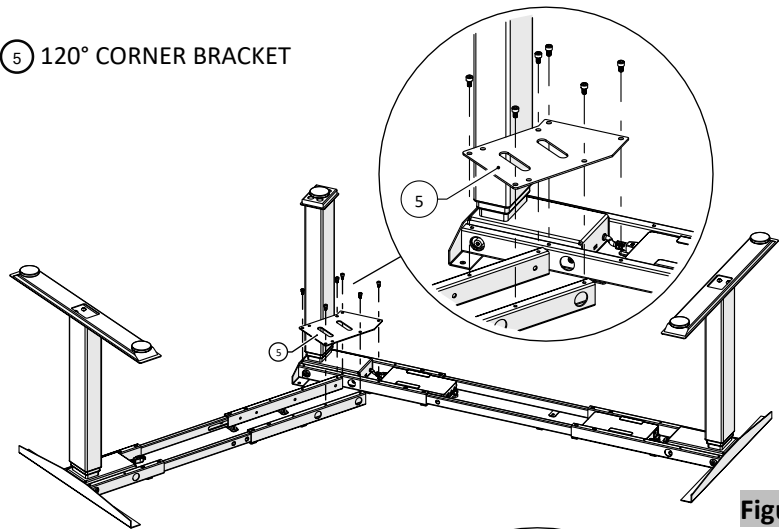

Figure 6
7. Install the 120-degree corner plate to the base frames using M6 X 10MM machine screws, (Figure 6).